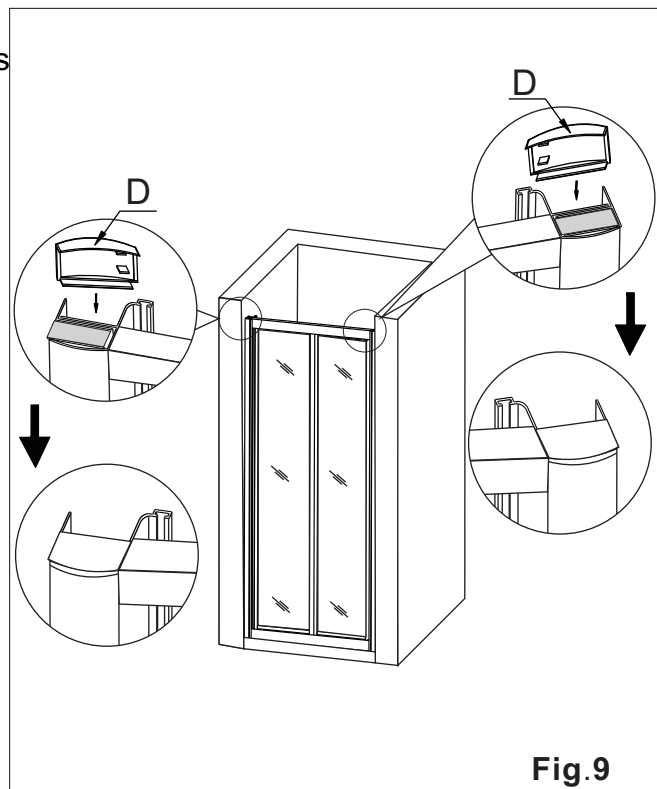

Fig.9
9. Fit the left and right profile caps (D) on the top of the two side profiles noting the correct orientation as per **Fig.9**.